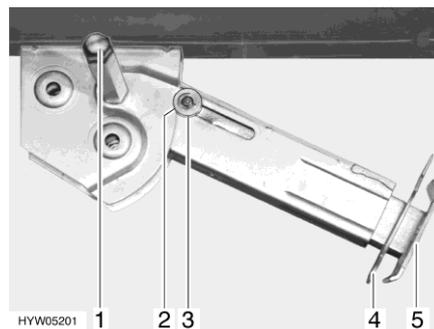

Fig. 31 Steady leg
- Place the socket spanner on the hexagon nut (Fig. 31,1) and rotate until the steady leg is in a perpendicular downward position.
- Remove the splint (Fig. 31,4) out of the support foot extension (Fig. 31,5).
- Place the socket spanner on the hexagon nut (Fig. 31,1) and rotate until the steady leg is clear of the ground.
- Push in the support foot extension (Fig. 31,5) and insert the splint (Fig. 31,4) in the drilled hole in the support foot extension.
- Rotate the hexagonal nut (Fig. 31,1) with the socket spanner until the steady leg has swung upwards and the guide disc (Fig. 31,3) has completely retracted into the notch (Fig. 31,2).